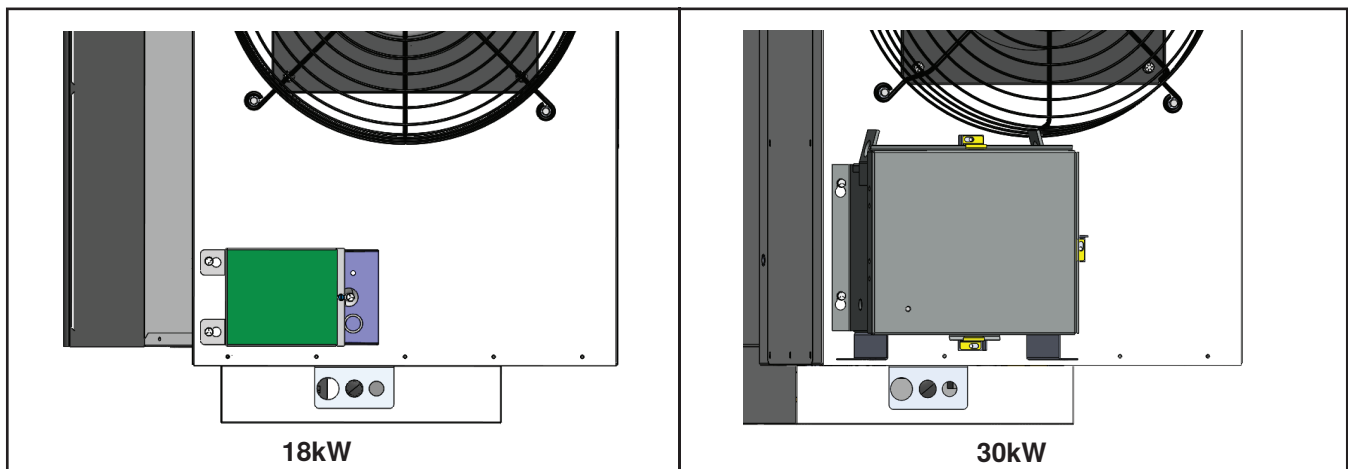

Figure 10. 600V Transformer Installation
1. Remove transformer from shipping pallet and position on top fan cabinet panel as shown in Figure 10.